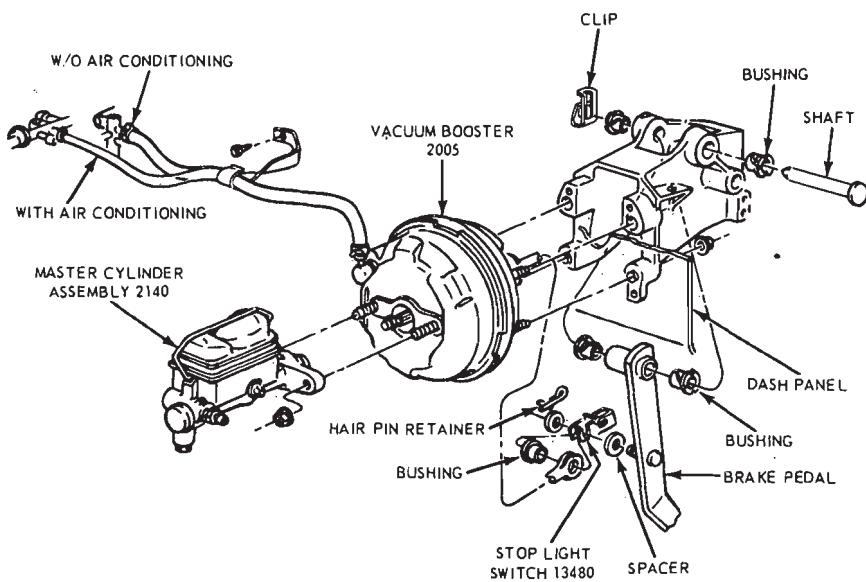

FIG. 13—Master Cylinder Installation—Power Brake—Ford, Mercury and Meteor
1. Remove the brake tubes from the primary and secondary outlet ports of the master cylinder (Figs. 13 thru 15).
2. Position the master cylinder assembly over the booster push rod and onto the two studs on the booster assembly (Figs. 13 thru 15).
Disconnect the stop light switch wires at the connector. Remove the hairpin retainer. Slide the stop light switch off from the brake pedal pin just far enough for the switch outer hole to clear the pin, and then remove the switch from the pin and booster push rod. Be careful not to damage the switch during removal. Slide the booster push rod and the nylon washers and bushing off the brake pedal pin (Figs 13 thru 15).
4. Remove the booster-to-dash panel attaching nuts or bolts (Figs. 13 thru 15). Remove the booster and bracket assembly from the dash panel, sliding the push rod link out from the engine side of the dash panel.
2. Mount the booster and bracket assembly to the dash panel by inserting the push rod or push rod link in through the hole and boot in the dash panel. Install the bracket-to-dash panel attaching lock nuts or bolts (Figs. 13 thru 15).
Install the inner nylon washer, the booster push rod, and the bushing on the brake pedal pin. Position the switch so that it straddles the push rod with the switch slot on the pedal pin and the switch outer hole just clearing the pin. Slide the switch completely onto the pin, and install the nylon washer as shown in Figs. 13 thru 15. Be careful not to bend or deform the switch. Secure these parts to the pin with the hairpin retainer. Connect the stop light switch wires to the connector, and install the wires in the retaining clip.